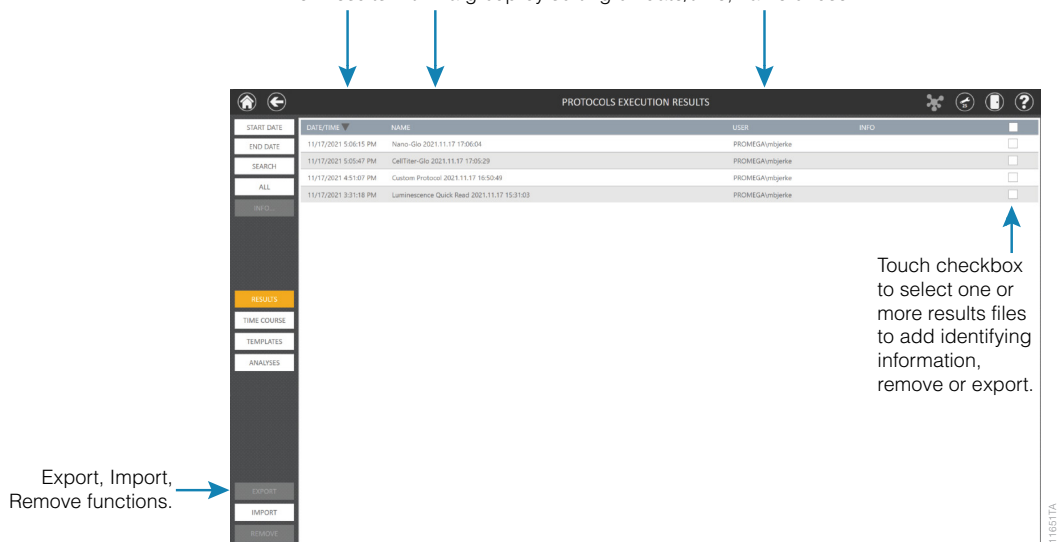

Figure 63. The 'Results, Time Course, Templates and Analyses' screen.
2. The middle section of the Left Navigation column allows users to toggle the display on this screen between **Results**, **Templates** and **Analyses** (Figure 63).